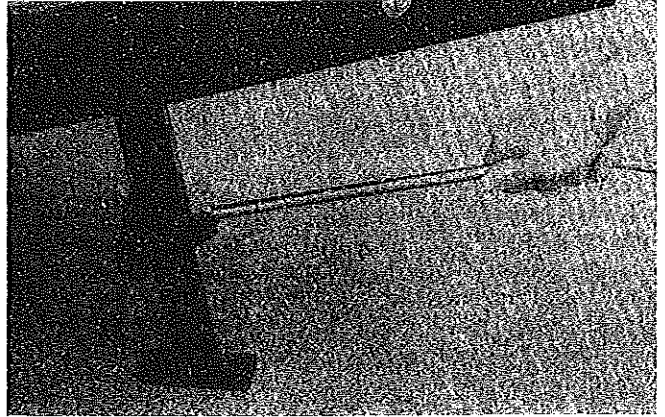

FIGURE 48
25. Press on the quick-release lever of the stabilizer jack with the jack handle and push downward slowly. This releases the stabilizer jack and the corner of the trailer will drop somewhat. See Figure 48.